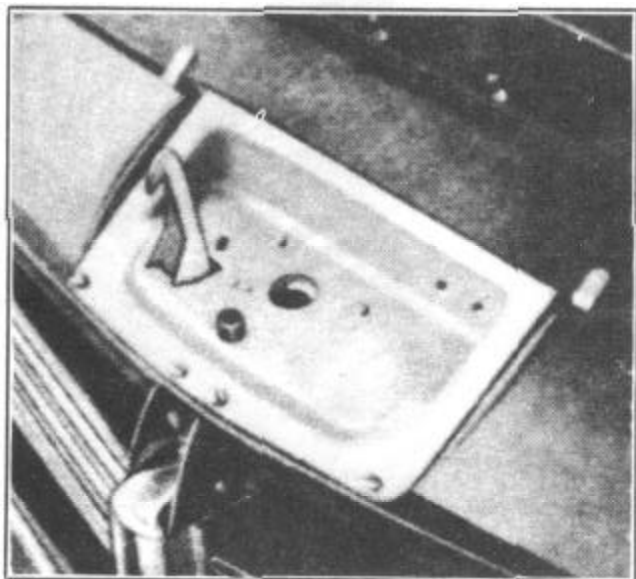

FIGURE 100
2. Remove 4 bolts attaching hood lock lower support to fender tie panel and remove lower support from car, Figure 100.